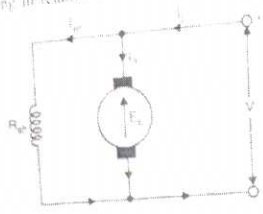

Fig. 18.4
- (i) shunt-wound motor in which the field winding is connected in parallel with the armature (See Fig. 18.4)